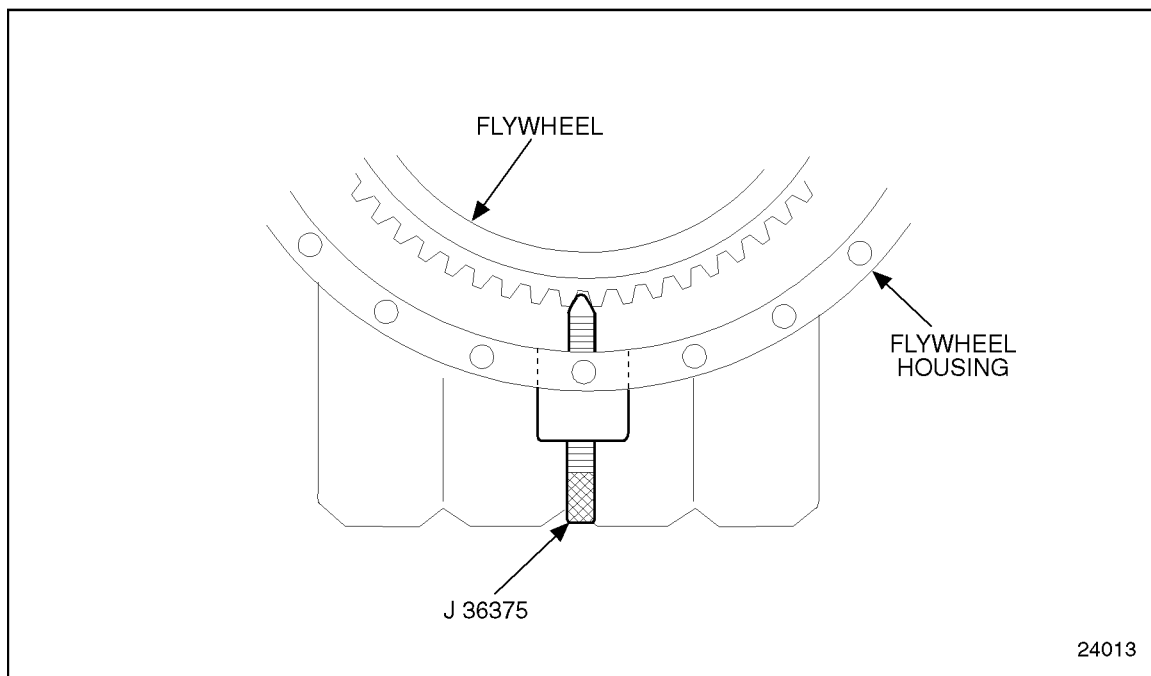

Figure 1-234 Flywheel Lock
2. Remove the inspection plug in the bottom of the flywheel housing and install the flywheel lock (J-36375)-A. See Figure 1-234.